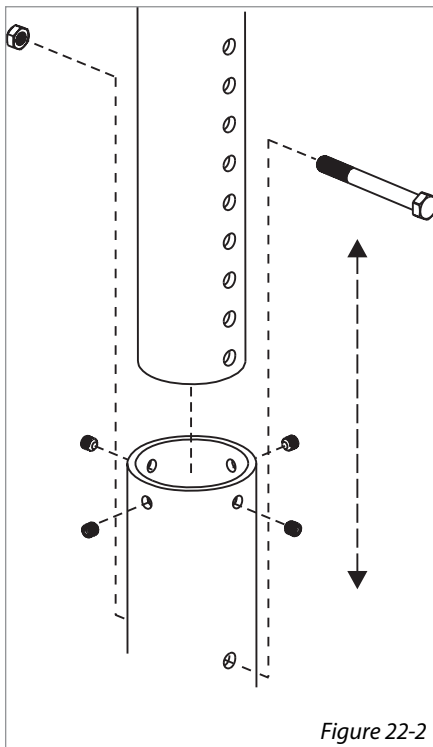

Figure 22-2
- Tighten set screws/ (x4) [Figure 22-2]